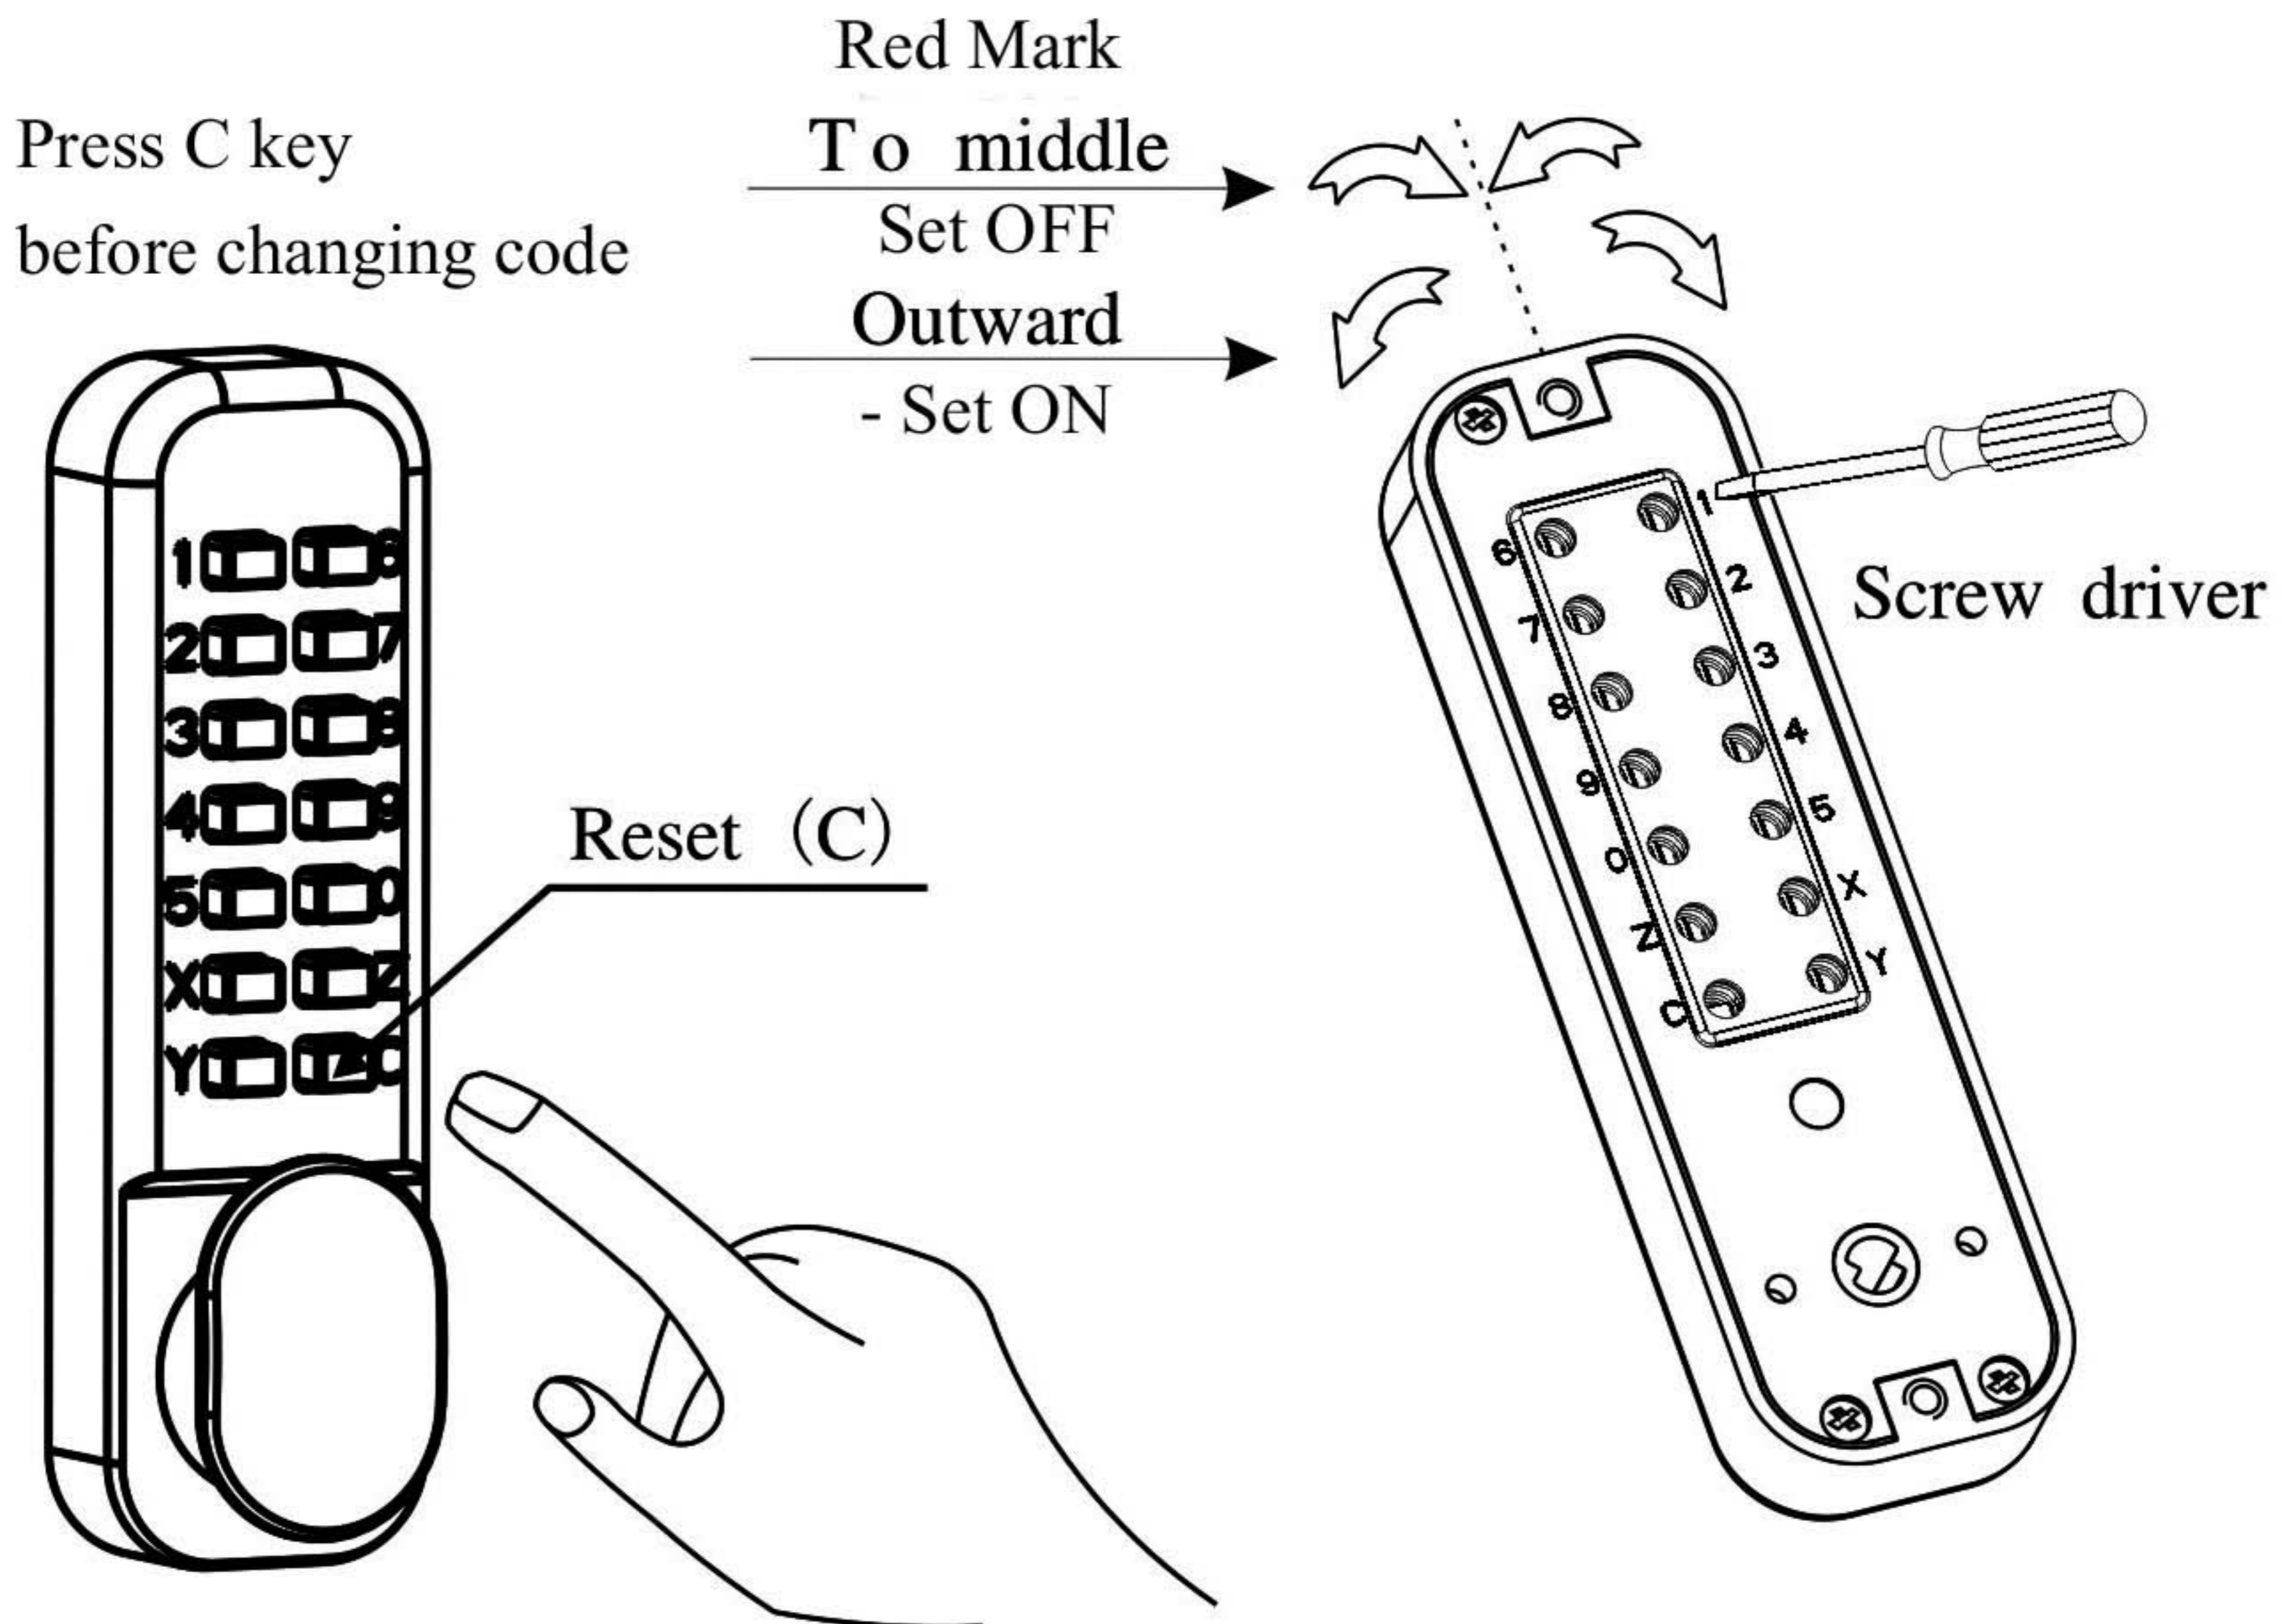

Fig.7
9. Insert the spindle(part#4) into the latch and ensure position is correct for your door type as shown in Fig.7. Keep spindle in this position.
Install spindle as shown in Fig.7 from the Primary Keypad Side of Door ONLY
- When reinstalling the lock onto the door pay attention to the spindle position as shown in Fig.7.